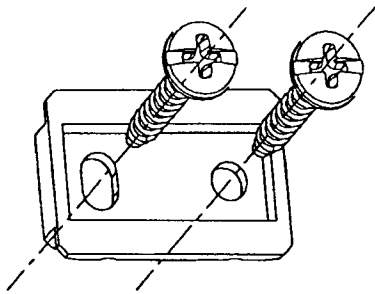

Figure 5
1. Install the Wall Mount bracket horizontally onto the wall using the screws provided. See figure 5.